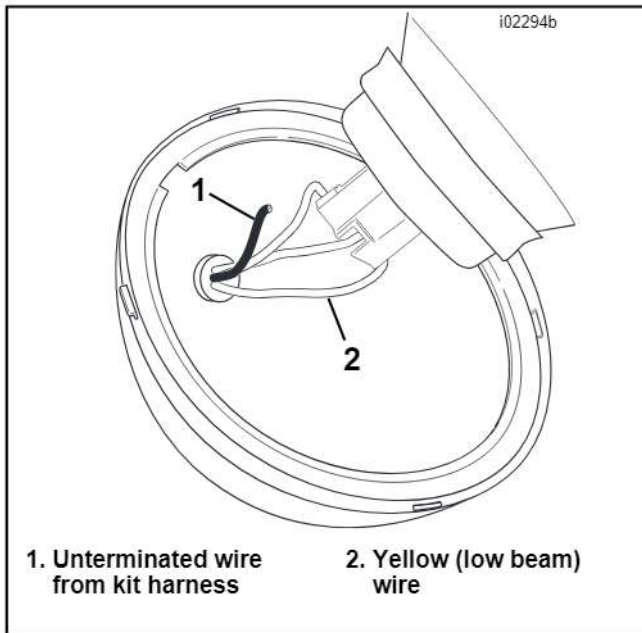

Figure 7. Route Underterminated Wire from Lamp Switch to Headlight Yellow Wire (All Models Except VRSC)
**All models except VRSC:** See Figure 7. Route the underterminated wire from the switch through the grommet into the headlight housing.